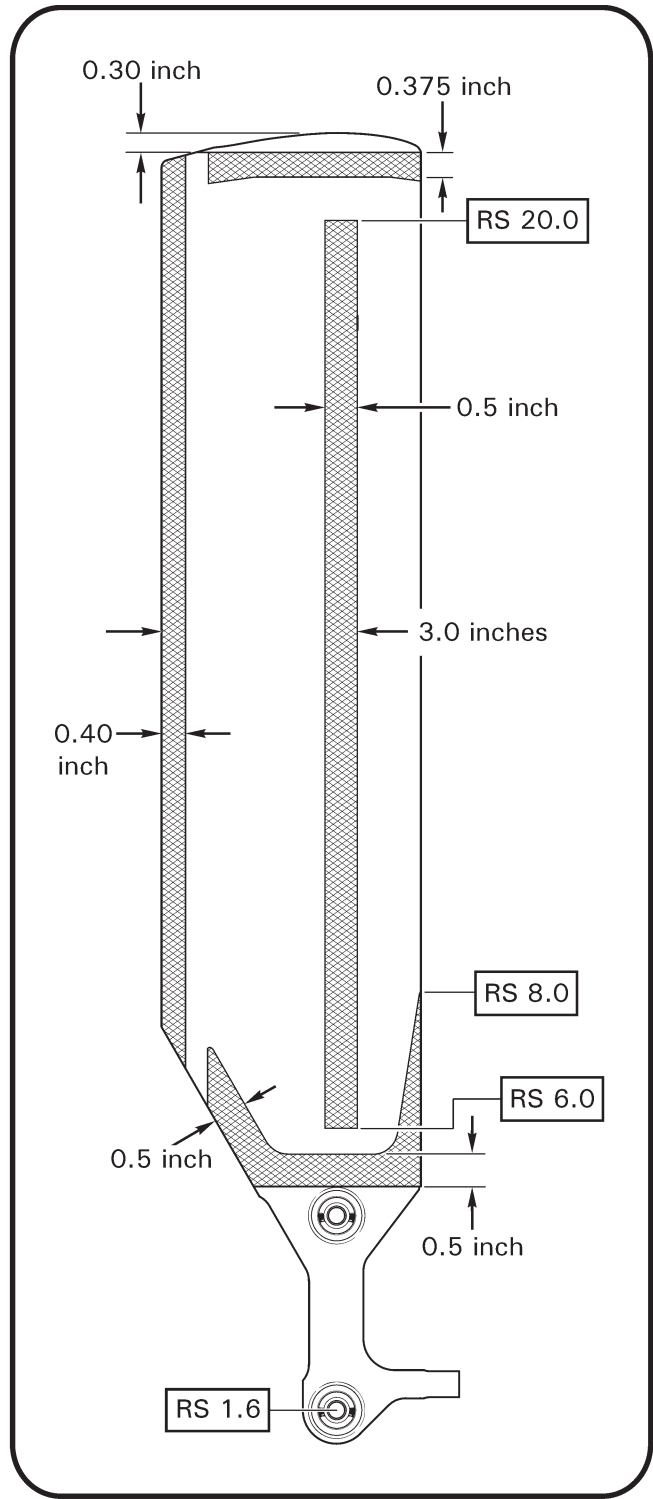

FIGURE 28-6 TAIL ROTOR BLADE BONDED AREAS
5. Refer to Figure 28-6. At each 100-hour inspection, tap test bonded areas shown to verify bond integrity, paying special attention to tip cap. Reference tap test instructional video at: https://robinsonheli.com/wp-content/uploads/2021/06/taptest_05_apr_2010.mp4